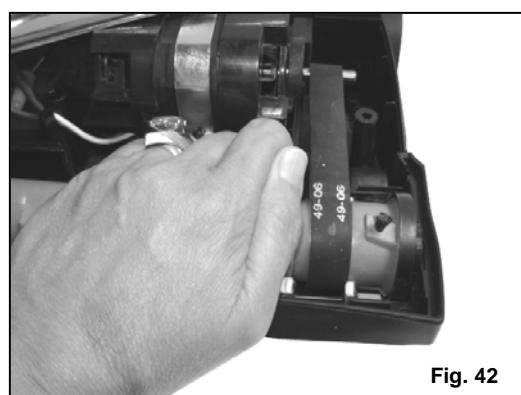

Fig. 42
10. Place the new belt over the agitator pulley first making sure that the lettering on the belt is visible. Then slide it over the motor pulley. (Fig. 42)